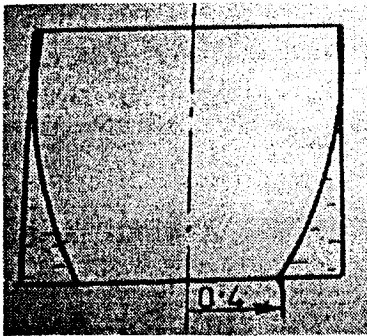

Figure 3
- III. (a) Water is filled partially in a cylinder of 1m diameter and rotated at 150 rpm. The cylinder is empty at the bottom surface up to a radius of 0.4 m as shown in figure 3. Determine the pressure at the extreme bottom edge. Also calculate the height of liquid at the edge. (3)